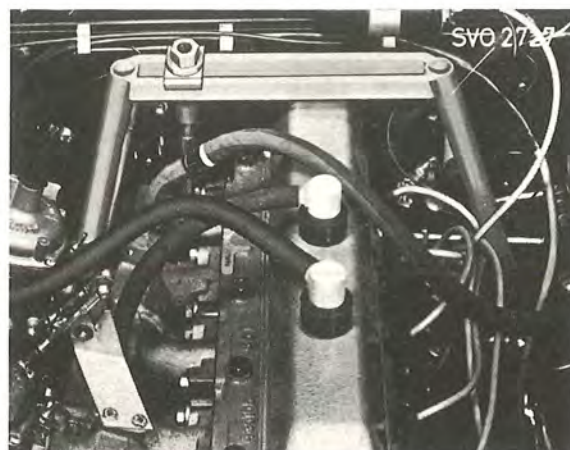

Fig. 4-16. Suspending the engine
- SVO 2727 Tool for suspending engine when removing and fitting gearbox, see Fig. 4-16
1. Secure tool SVO 2727 to the engine as shown in Fig. 4-16. The lifting hook is secured round the exhaust manifold.